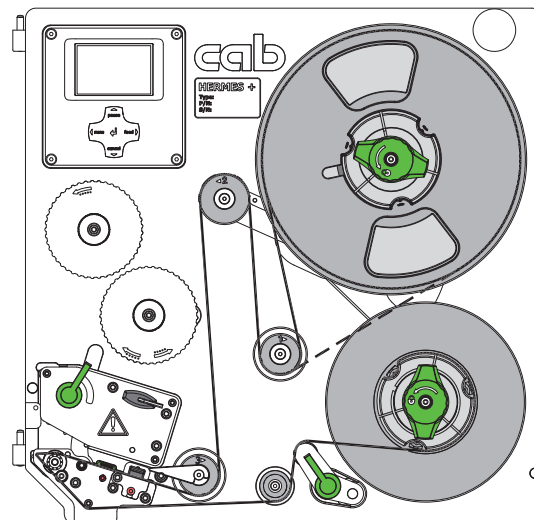

Fig. 11 Label feed path
1. Turn lever (4) counterclockwise to lift the printhead (2).
2. Move the guide (6) to the outermost position by turning the spindle (7) with the Allen key (8).
4. Guide label strip (5) to the print unit as shown in Fig. 11. The broken line shows the path for inside wound labels.
5. Guide label strip through the label sensor (3) to the peel-off edge.
6. Move the guide (6) against the label strip by turning the spindle (7).
7. Forward the label strip over the peel-off edge (1), that the strip reaches back internal rewinder. Remove the labels from the overhanging strip.